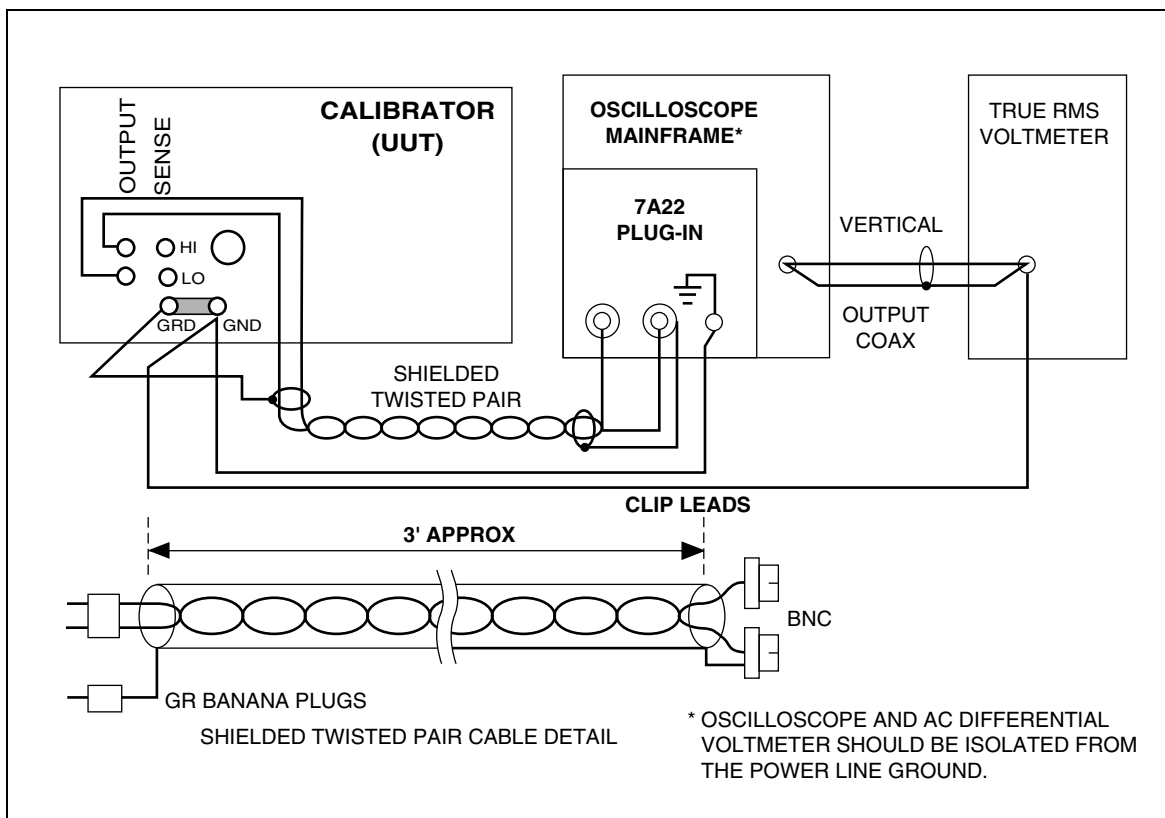

Figure 3-17. DC Voltage Output Noise Test Setup
1. Connect the equipment as shown in Figure 3-17.